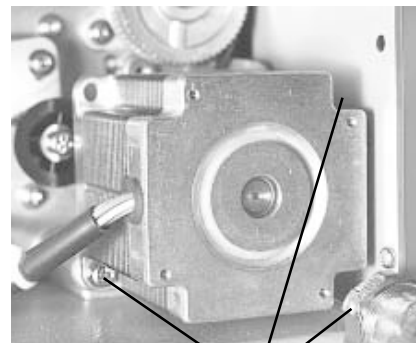

Fig. 6-16
3.	Remove (3) mounting screws holding the stepper motor to the frame. Detach the motor from the belt. Fig. 6-16